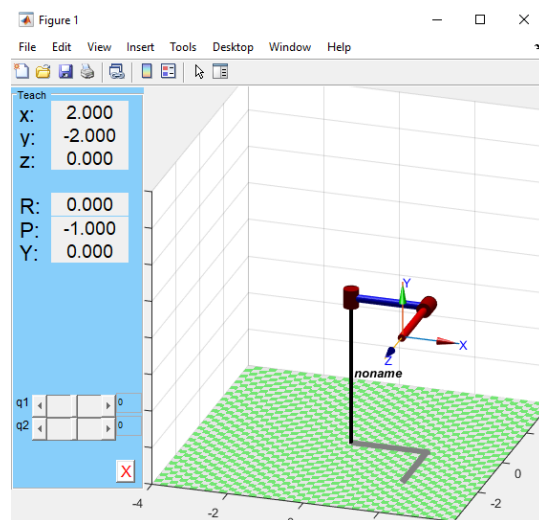

Figure 5.
Step 2. After entering the DH parameters in Figure 4 click on the Robotic Arm Plot button in Figure 3 to get the plot as shown in figure 5.